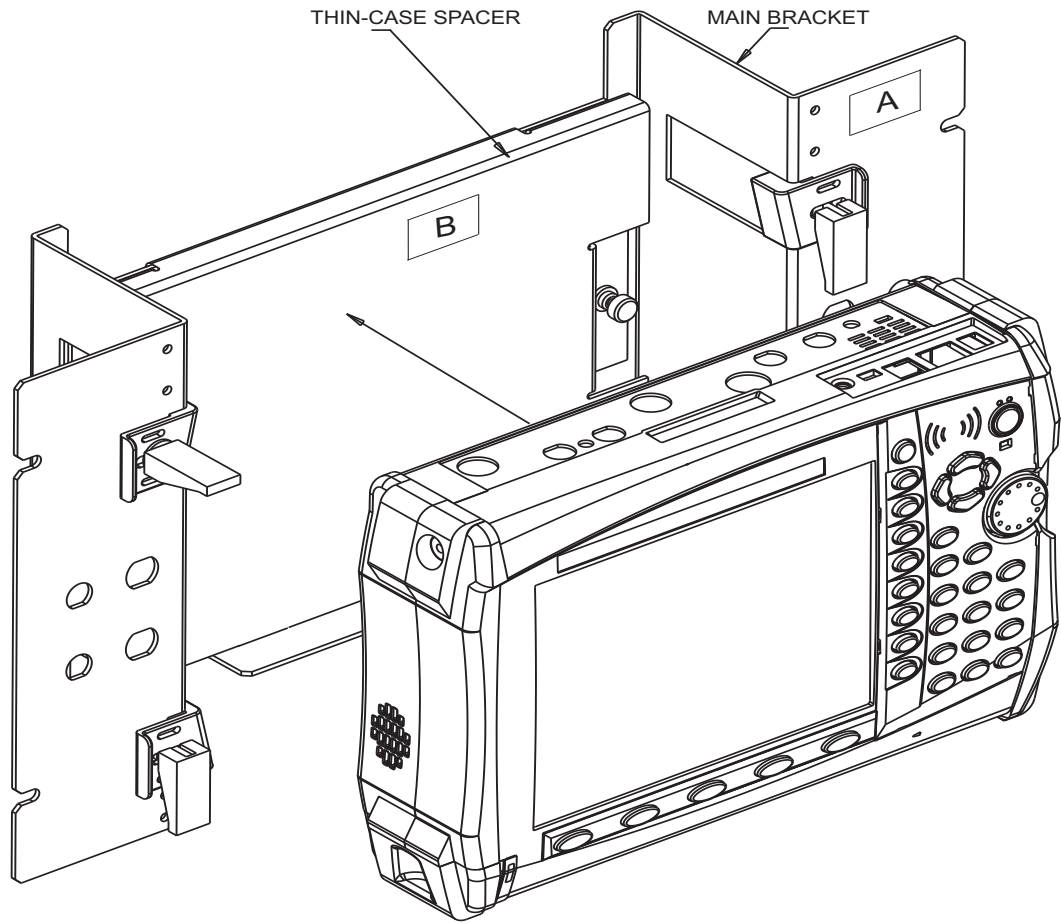

Figure 1-6. Thin-Case Rack Mount with Instrument
- 2. Ensure that only the Thin-Case Spacer (B) is installed in the Main Bracket (A).
- 3. Ensure the tightness of the thumb screws that hold spacer (B) to bracket (A). Refer to Figure 1-6.
- 6. Mount additional connectors (if needed) in the holes provided in bracket (A).